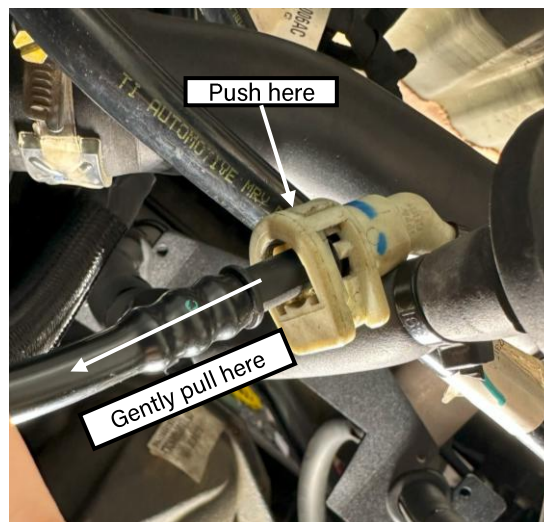

Figure 18: Filler breather clip disconnect
- ❑ Remove the filler breather by removing the blue, plastic retaining clip and gently pushing down on the spring clip on the opposite side (Figure 18)
24. To accommodate the new frame brackets on the passenger side, one of the gas tank mounts must be trimmed. Please see Figure 18 for a template on where to cut the rear-most frame rail mount on the tank. Use a cut-off wheel to make the cut. **REMOVE THE GAS TANK OUT OF THE SKID BEFORE CUTTING.**